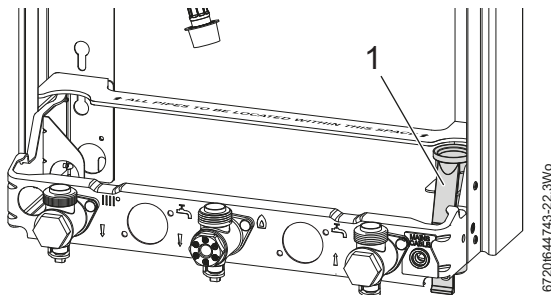

Fig. 63 Pressure relief drain pipe
- ▶ Referring to figure 63, check pressure relief drain pipe (1) is correctly fitted and securely tightened.